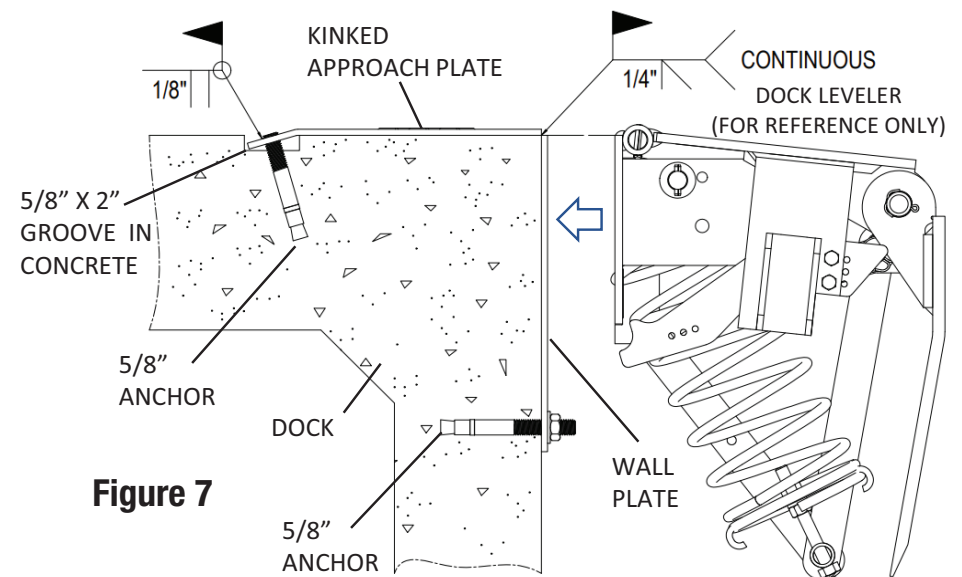

Figure 7
5. If kinked approach plate is used, mark on dock floor along full length of kinked edge of plate. (See **Figure 7**)